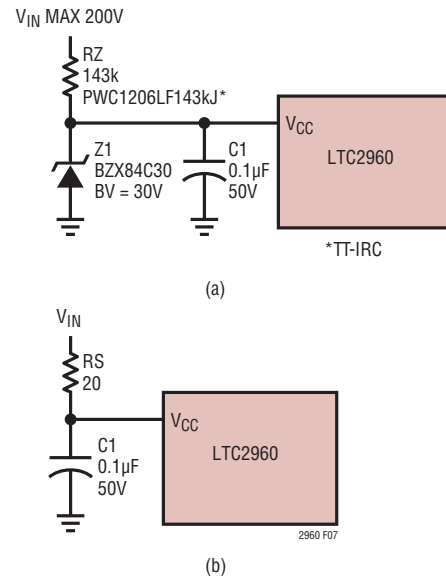

Figure 7. Operation with High Voltage Transients and Hot Swapping
The circuit in Figure 7(a) allows the LTC2960 to withstand high voltage transients. The magnitude of the voltage transients that can be absorbed is set by the voltage rating of RZ. A TT-IRC pulse-withstanding surface mount 1206 resistor with a nominal voltage rating of 200V is used. The external 30V Zener diode (Z1) and the 143kΩ current limiting resistor (RZ) protect the VIN supply pin of the LTC2960. Note that there is a speed penalty which is the time constant determined by RZ and C1, 14.3ms in this example. If VIN is below 30V, there is a voltage drop across RZ that is dependent on the quiescent current of the LTC2960 which is nominally less than 150mV but can be as high as 290mV if  $\overline{\text{MR}}$  is pulled low. The maximum voltage drop is determined by the maximum specified ICC and  $\overline{\text{MR}}$  pull-up currents. For conditions where the Zener conducts current, it can be biased in the microamp range owing to the low quiescent current of the LTC2960. For a supply voltage of 150V, the Zener is biased <1mA. When input pins are used to sense VIN, the input pins ADJ/IN+/IN- absolute maximum rating of 3.5V must not be exceeded. VIN can be a maximum of 8.75x the lowest programmed threshold to satisfy this condition. For a maximum VIN of 150V, the lowest programmable threshold is >17V.
One effective means to eliminate ringing is to include a 10–100 $\Omega$  resistance in series with the supply input before the  $V_{CC}$  capacitor shown in Figure 7(b). This provides damping for the resonant circuit but imposes a time constant to  $V_{CC}$ . In Figure 7(b), the time constant of  $R_S$  and  $C_1$  is 2 $\mu$ s.